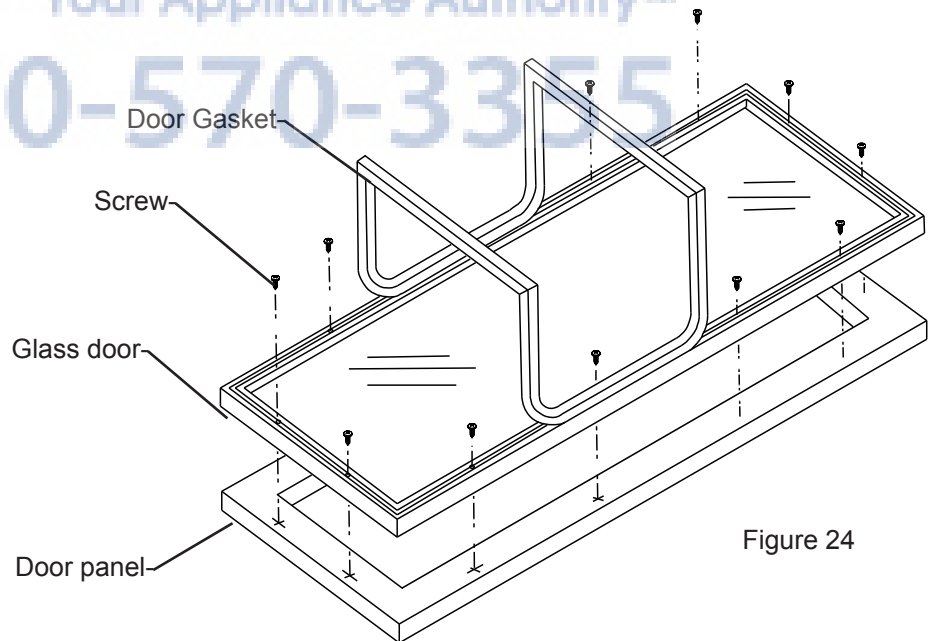

Figure 24
1. A #10 pan head wood screw should be used to properly secure the overlay panel (See Figure 24). Screws are supplied with unit.
1. Remove the gasket from the door front. (See Figure 24). Do this by pulling the gasket out of the channel that holds it to the door front. This will expose the clearance holes for mounting the custom overlay panel. (See Figure 24).
2. Set the door on the overlay panel and align edges. (See Figure 24). Clamp panel in position and mark pilot hole locations. Pick the required pilot hole size from "Table C" below and drill the pilot holes ensuring not to drill all the way through the overlay panel.